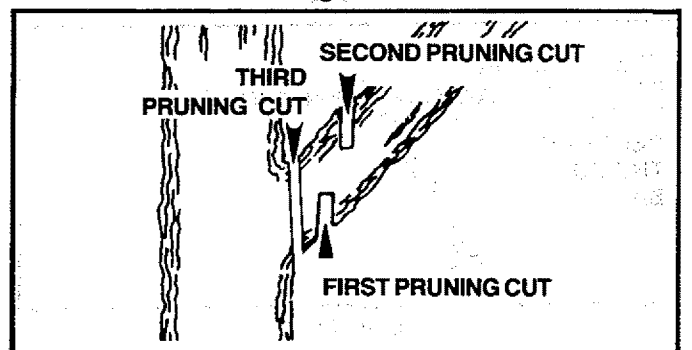

Figure 37
- b. **Refer to Figure 37 for the pruning technique.**